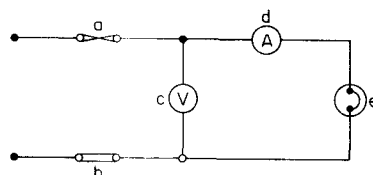

Fig. 3.175
2. In Fig. 3.175 name the parts lettered a, b, c, d and e. Redraw the circuit taking care to show the live conductor by a full line and the neutral conductor by a dotted line.